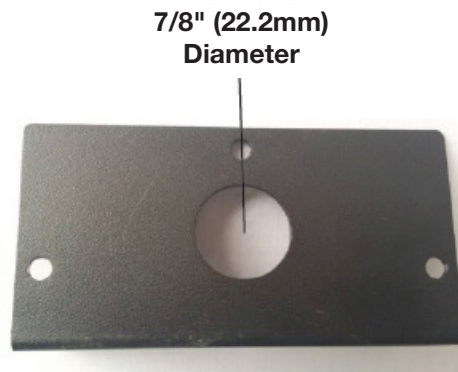

Fig. 2
- Punch out the 7/8" (22.2mm) hole in the new cover plate (supplied) (**Fig. 2**) and install a box connector through and into the junction box. Snap the box connector clamp onto the supply wires.